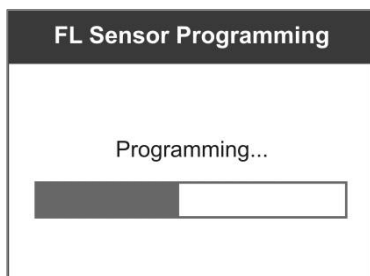
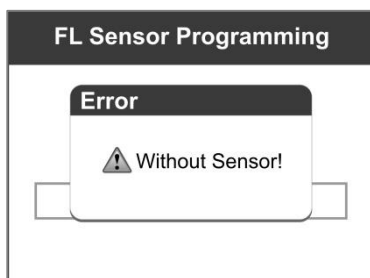

Figure 5-9 *Sample Programming Screen*
Figure 5-10 *Sample Warning Screen*
5. Press the **Y** button to write in the new created sensor ID to the MX-Sensor and the screen will show as below (*Figure 5-9*), or the **N** button to exit without change. If an error prompt displays (*Figure 5-10*), please try another type of MX-Sensor, for the